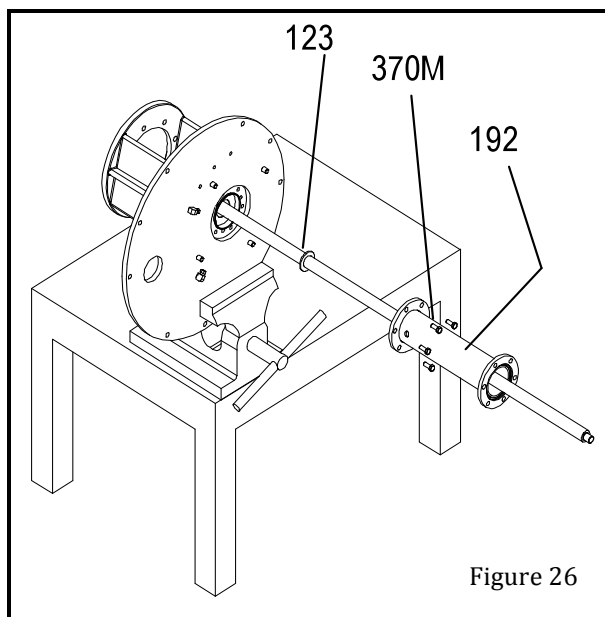

Figure 26
22. If your pump has no intermediate steady bearings (only one column section), you will not have any column extension (306) or steady bearing housing (213). Go to step 24.
23. Starting at the casing end of the pump (Figure 25), remove column to steady bearing housing bolts (372B) and remove column extensions (306), steady bearing housings (213), and deflectors (123) one at a time. While removing column sections, support the shaft to prevent bending. There is usually no need to remove the head column (192) (Figure 26). Do not remove steady bearings at this time. Refer to the inspection procedures prior to removal.